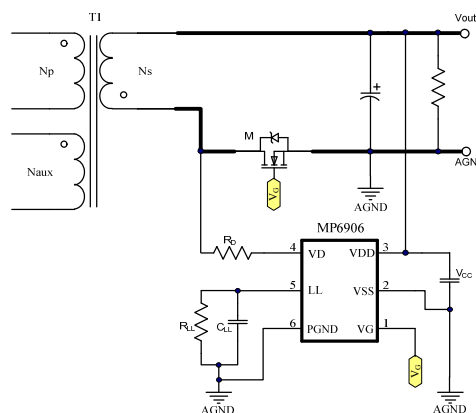

Figure 13: Synchronous Rectifier
If the circuit has a high efficiency requirement, it is recommended to use a synchronous rectifier (SR) instead. The MP6906 is a suitable SR controller where the output voltage is low and there is no need for a secondary auxiliary winding. Figure 13 shows a typical SR circuit. The MP6906 is available in a SOT23-6 package, which does not require extra PCB dimensions or external components.